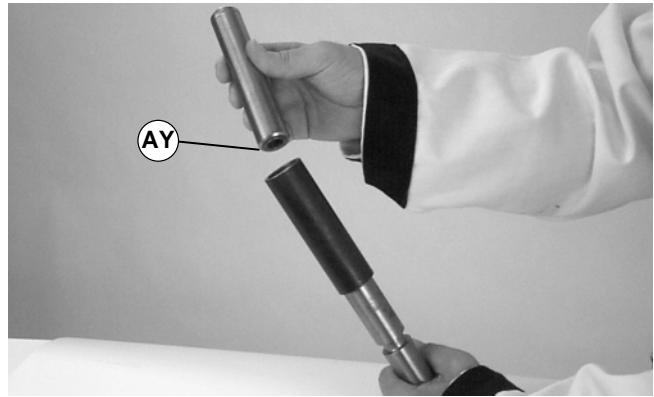

Figure 40
- Place open end of shaft (AY of Figure 40) into sleeve.